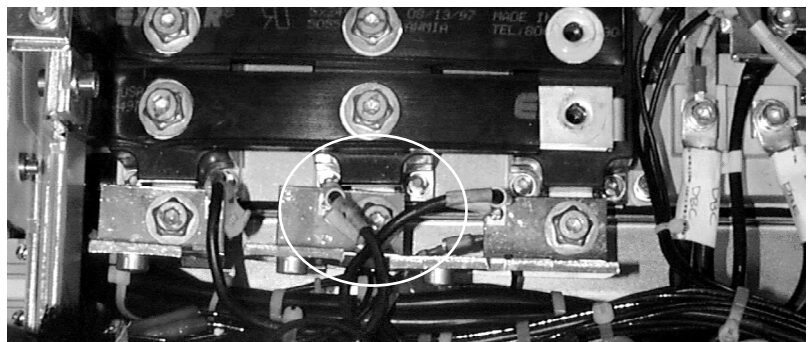

Figure 4.2.54: Location of VZ3G007 Temperature Switch
5. Remove the bolt securing the middle bus bar (see Figure 4.2.54) to the diode module. Remove the wire(s) from the bus bar. The temperature switch is on the back of this bus bar.